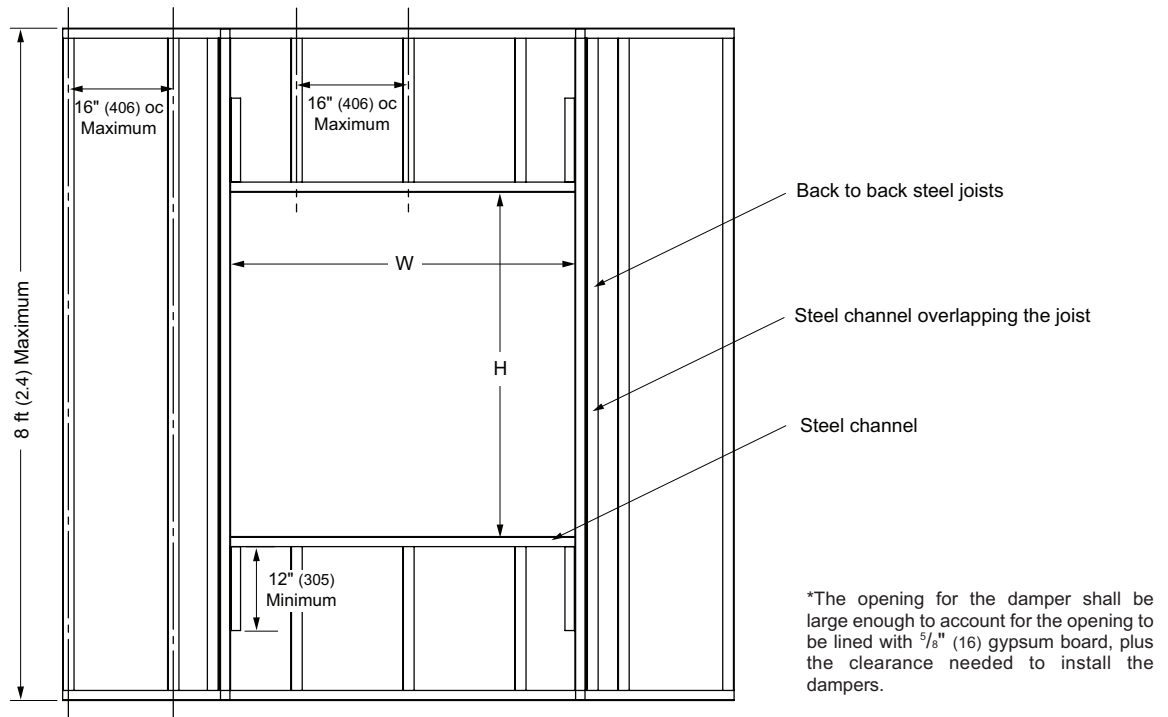

Figure 3
A. On the sides parallel to the steel joists, the damper shall be framed by 2 steel joists installed back to back with a steel channel overlapping the joist facing the damper sleeve. See Fig. 3.
C. The opening shall be lined with $\frac{5}{8}$ " (16) gypsum board as specified in UL Design I503 that is screwed to the steel joist and steel channel with Type S steel screws minimum